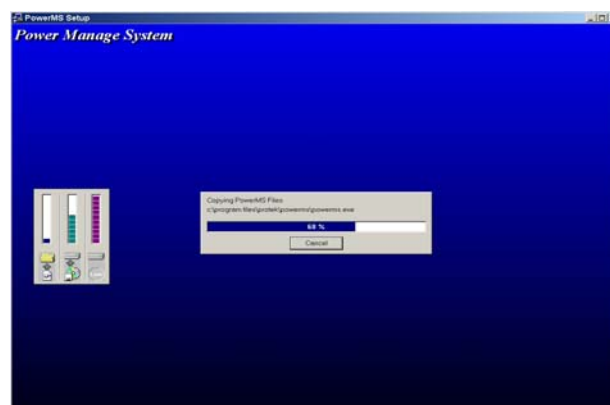

Fig. 3-7 The Installation window showing the files being installed
- 3.1.7 Generally, click “NEXT” and accept the default program folder. Please wait until the files are copied. Fig 3-7 displays the files being installed. The PowerMS software installation is now complete.